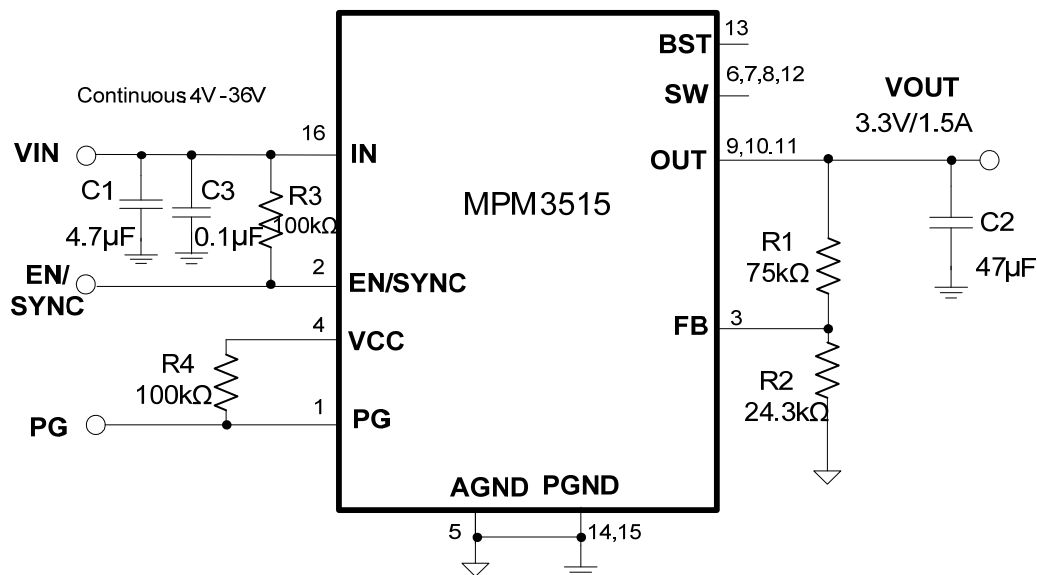

Figure 8: $V_{OUT} = 3.3V$, $I_{OUT} = 1.5A$
7) The recommended layout is based on Figure 8.